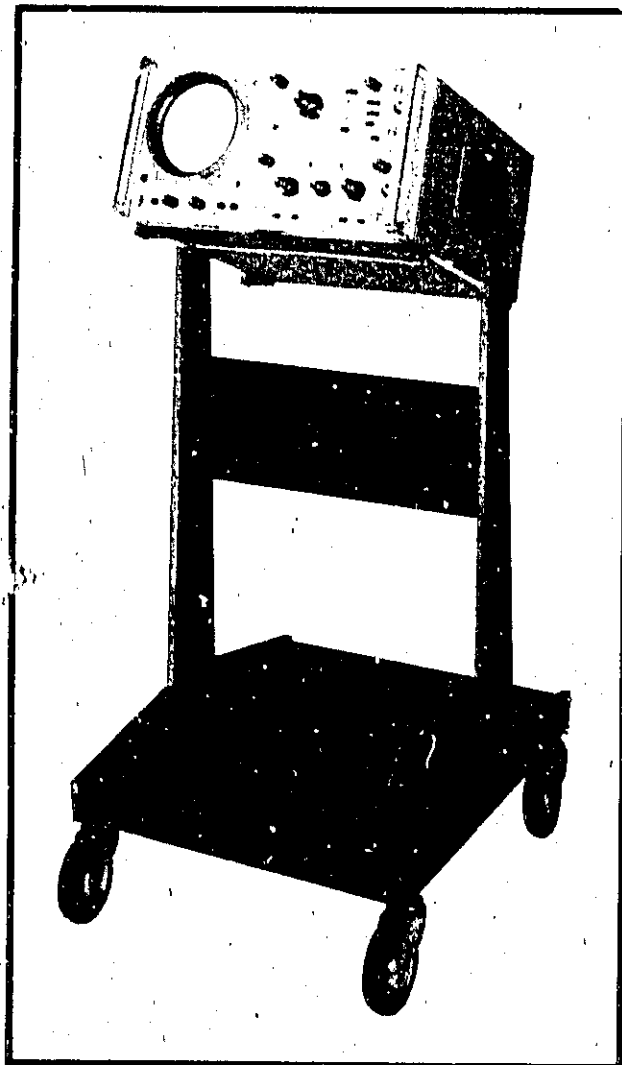

Figure 1. Model 1119A Testmobile
2. The HP Model 1119A Testmobile, shown in Figure 1, is a general purpose test mobile which is designed for maximum utility while requiring a minimum of floor space. It provides a quick and easy means of moving an instrument from one test location to another. It also serves as a convenient test or storage stand. Specifications for the HP Model 1119A Testmobile are listed in Table 1.